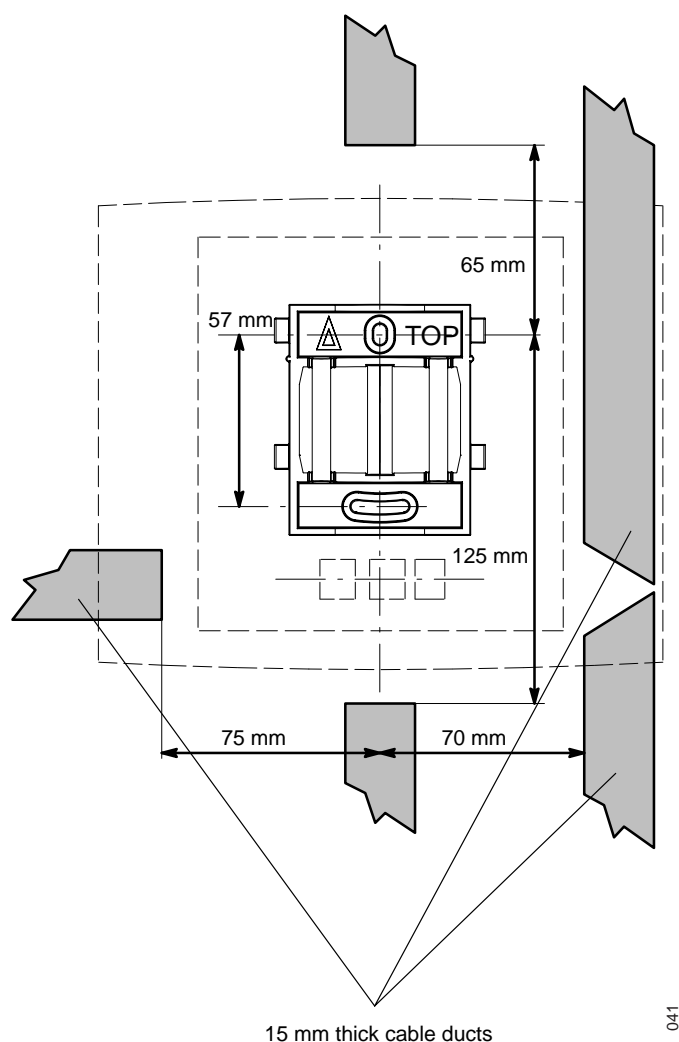

Fig. 39 Minimum distances between a cable duct and the mounting bracket
1. Fix the cable duct to the wall in one of the positions shown in figure 39.